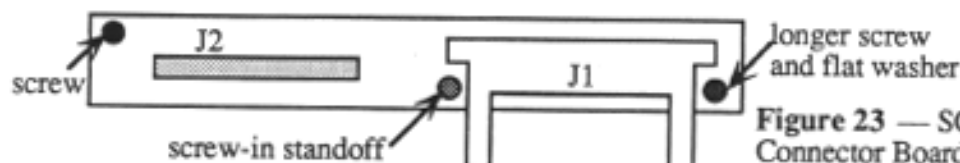

Figure 23 — SQ-R Card
7. Install the screw-in standoff into the hole in the middle of the Card Connector Board (see Figure 23).
8. Attach replacement board to base using the two screws (see Figure 23).